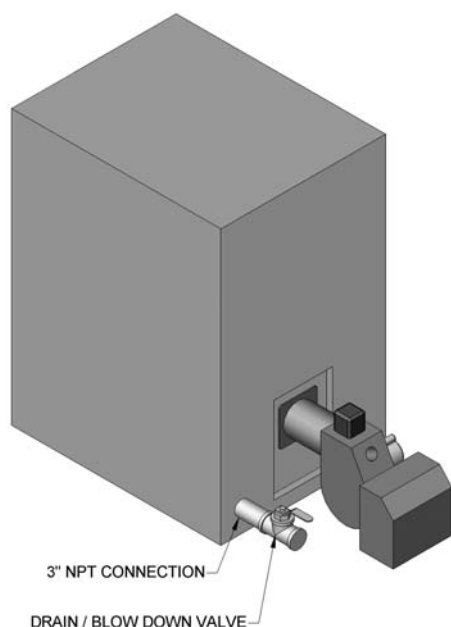

Figure 3.15: Boiler Drain/Blowdown Valve Installation
- Water Boilers: Install a drain valve either in the return piping or in one of the 3" NPT lower tapplings in the Front Section of the boiler. See Figure 3.15.
- Steam Boilers: Install a 1-1/4" NPT Full Port Blowdown Valve either in the return piping or in one of the 3" NPT connections in the Front Section of the boiler. See Figure 3.15.